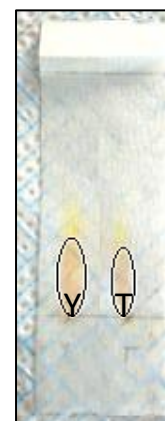

Figure 13. Amount of turmeric powder to be dissolved in oil.
- Dissolve a small amount of turmeric powder (Figure 13) in vegetable oil.